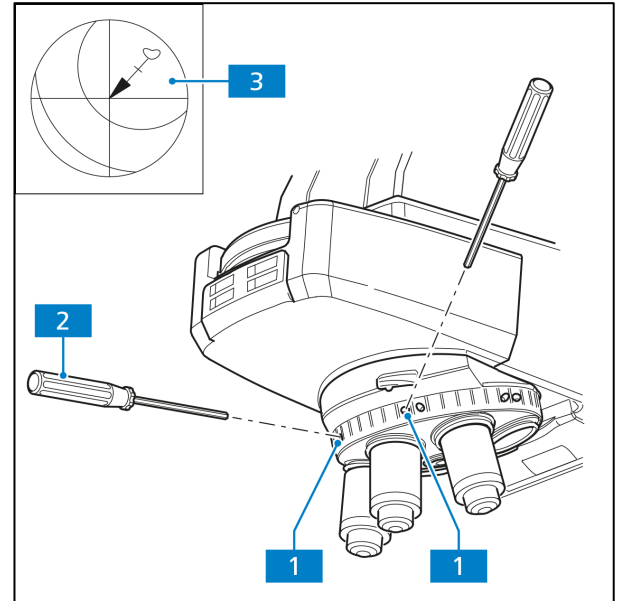

Fig. 3-18 Centering objectives
- Rotate the stage to determine the position of maximum offset of the specimen feature (Fig. 3-18/3, origin of arrow) from the center of the eyepiece reticle.
- Turn the two centering screws on the nosepiece (Fig. 3-18/1) using one AF 1.5 Allen wrench (Fig. 3-18/2) each to move the specimen feature by half the arrow length towards the reticle center. Rotate the stage again to check whether the specimen feature moves off. Repeat the centering procedure, if necessary.